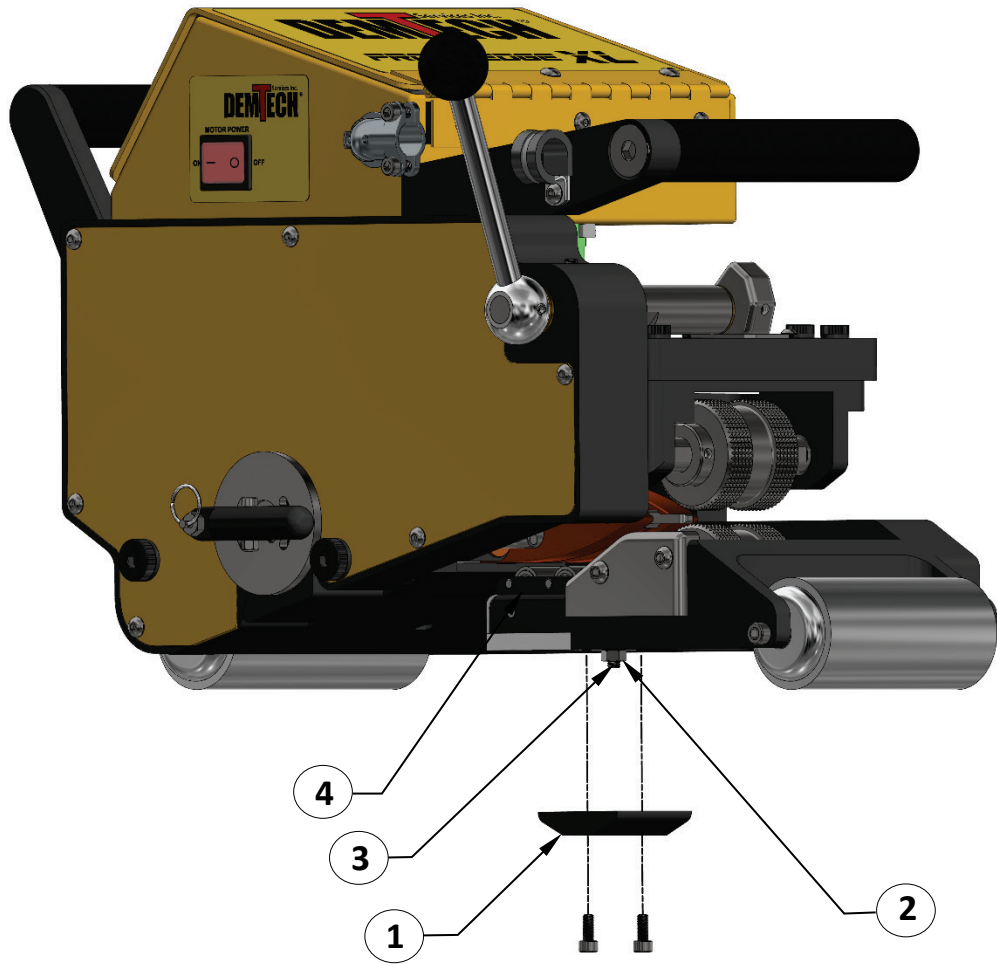

Figure 1
The procedures described in the following sections cover the initial set-up required for various mil thickness materials and tolerances. These adjustments must be made while the wedge heater is at room temperature. Refer to Figures 1 through 7 on the following pages while performing these procedures. Referring to Diagram 1, use the actual material you intend to weld, or if this is not possible use material that is the same mil thickness, cut two pieces approximately 4 inches wide by 18 inches long and three smaller pieces approximately 1/2 inch wide by 6 inches long. These five pieces of material will be used as "gauges" for setting three adjustments on the Pro-Wedge.
- a. Adjust the upper and lower contour rollers away from the wedge so they will not interfere with the wedge centering adjustment. Using a 4mm hex wrench remove the Lower Contour Roller Adjustment Cover (1) (see Figure 1) to expose the Adjustment Screw. Using a 10mm box end wrench loosen the Locknut (2) (see Figure 1). Using a 3mm hex wrench turn the Adjustment Screw (3) (see Figure 1) counter-clockwise, lowering the Lower Contour Roller Assembly (4) (see Figure 1) away from the Wedge.
- a. Insert one of the 4" X 18" material pieces between the Lower Contour Roller Assembly and the Wedge (see Diagram 3). This piece should extend out of the front of the welder (opposite end from the Nip Rollers). Adjust the Lower Contour Roller Assembly upwards by turning the Adjustment Screw (3) (see Figure 1) clockwise until the Wedge begins to move up slightly.